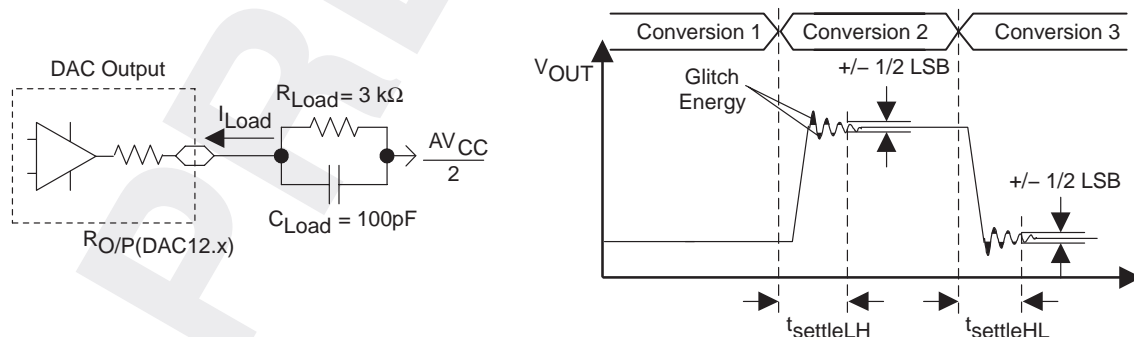
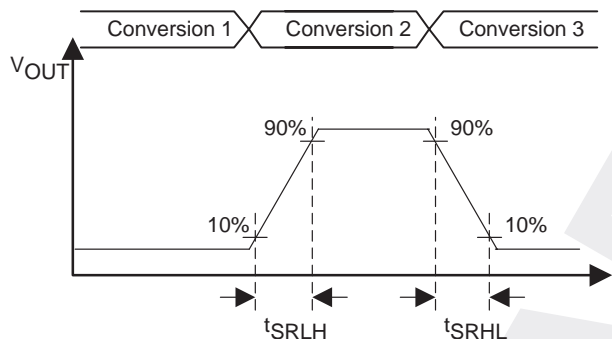

Figure 30. Settling Time and Glitch Energy Testing
Figure 31. Slew Rate Testing
12-bit DAC, dynamic specifications; Vref = VCC, DAC12IR = 1 (see Figure 30 and Figure 31)
- NOTES: 1. RLoad and CLoad connected to AVSS (not AVCC/2) in Figure 30.